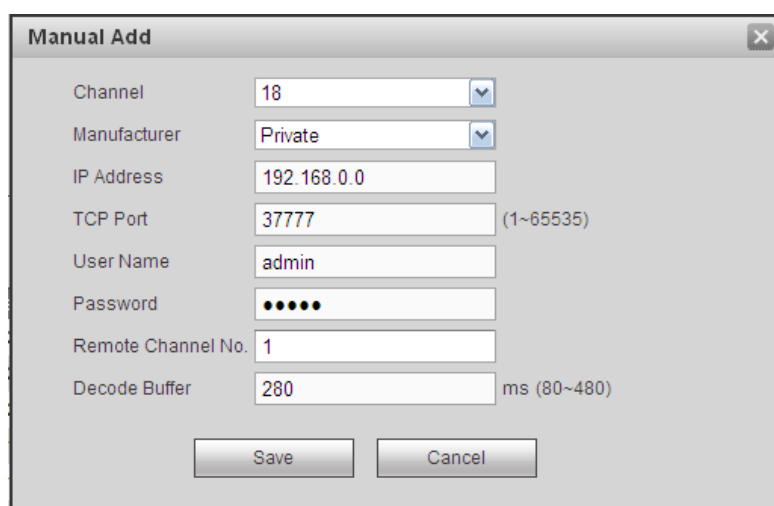

Figure 5-29
Step 1 Click Manual add to register the camera manually. There are three modes: TCP/UDP/Auto. The default setup is TCP. See Figure 5-29.